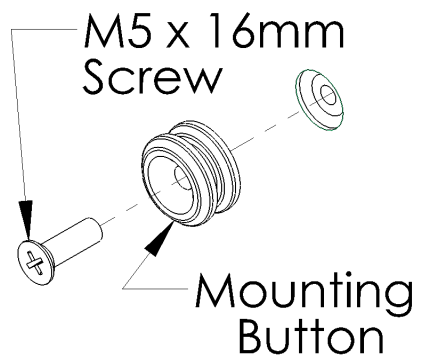

Figure 3
2. Attach mounting buttons to back of screen using supplied M5 x 16mm Phillips Flat Head Screws (See figure 3 & 4).